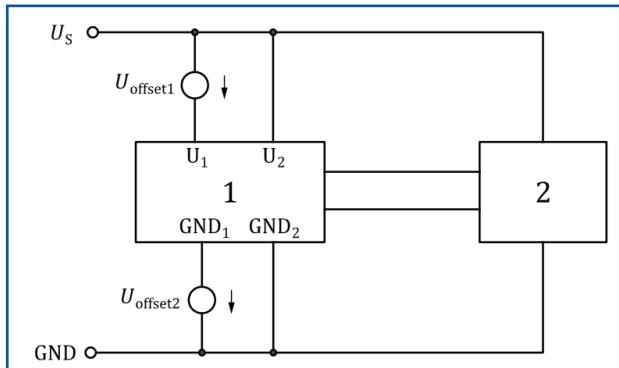

Figure 18 — Example of ground reference and supply offset on a DUT with two ground/supply paths
- This test serves to verify reliable operation of a component if two or more power supply paths exist (note that this is not necessarily the same as redundant power supply feeds to a DUT). For instance, a component can have a power ground and a signal ground that are outputs on different circuits (e.g. for a DUT with two ground connections and two supply connections given in Figure 18).
- The offset shall be applied to each ground/supply line separately (see Figure 18), and test shall be repeated for each possible ground/supply line combination. For overview of the test coverage, creating a test matrix showing the possible combinations can be advisable. Example of such a test matrix is given in Table 17.